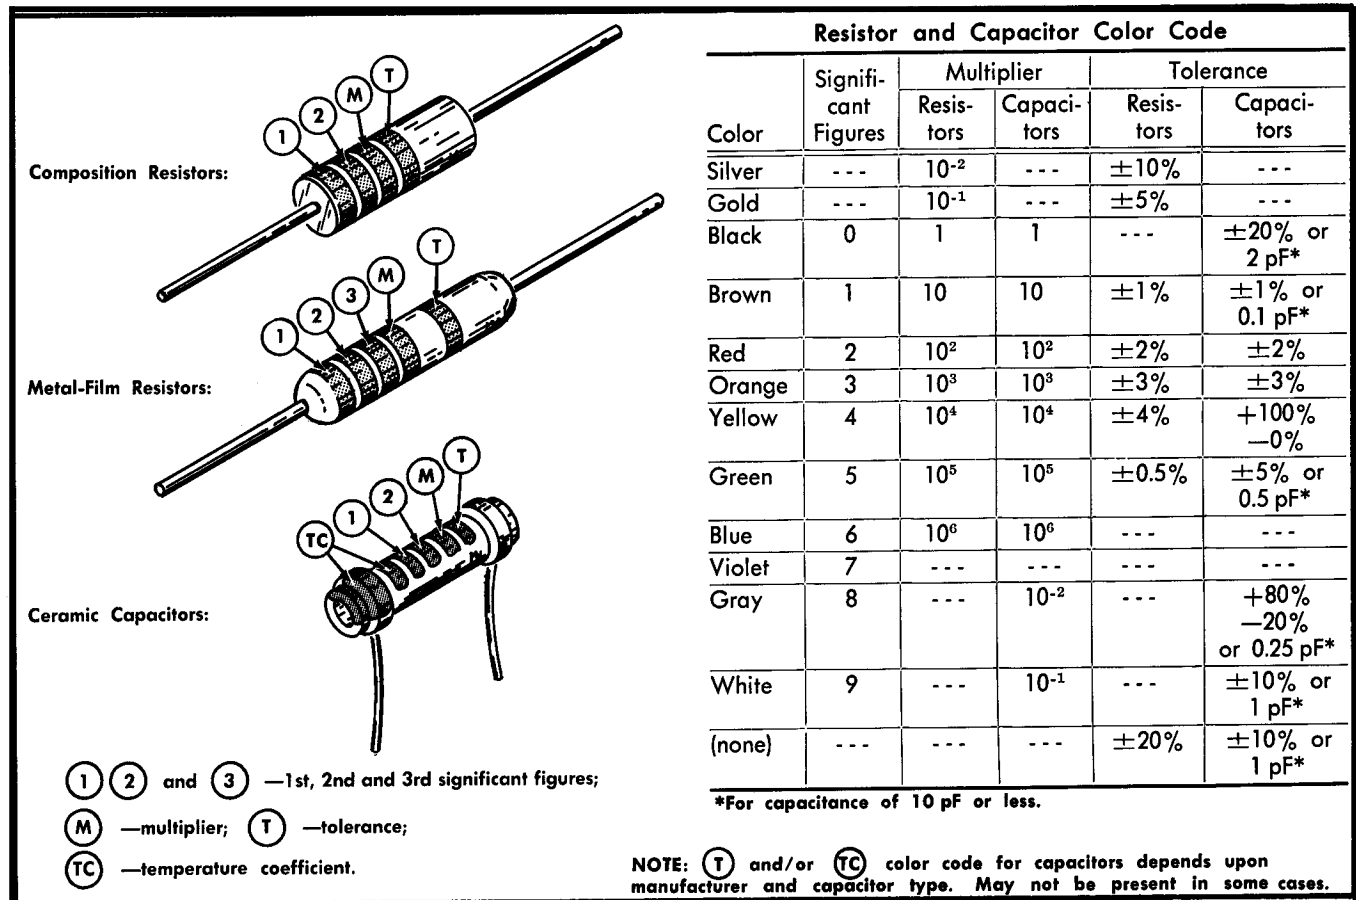

Fig. 4-1. Color-code for resistors and ceramic capacitors.
**Resistor Color-Code.** Brown composition resistors and metal-film resistors are used in the Type 7A16. The resistance values of composition resistors and metal-film resistors are color coded on the components (some metal-film resistors may have the value printed on the body) with EIA color-code. The color code is read starting with stripe nearest the end of the resistor. Composition resistors have four stripes which consist of two significant figures, a multiplier and a tolerance value (see Fig. 4-1). Metal-film resistors have five stripes consisting of three significant figures, a multiplier and a tolerance value.
**Capacitor Marking.** The capacitance values of common disc capacitors and small electrolytics are marked in microfarads on the side of the component body. The white ceramic capacitors used in the Type 7A16 are color coded in picofarads using a modified EIA code (see Fig. 4-1).